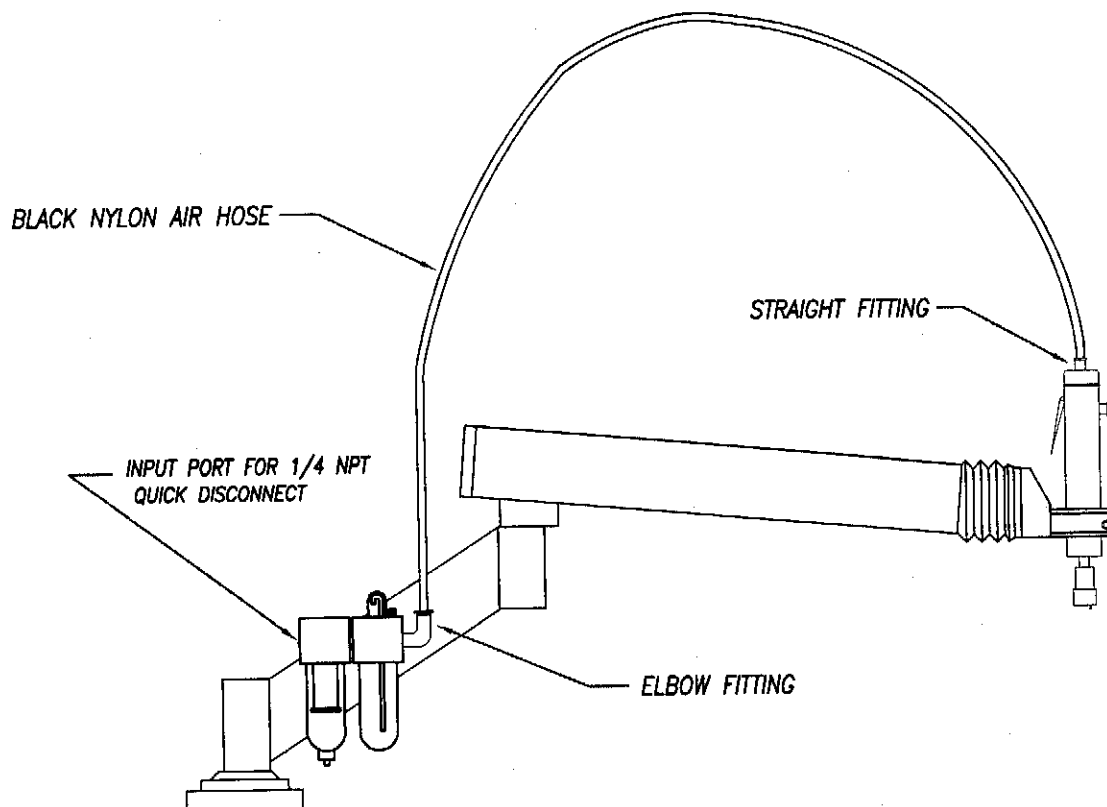

FIGURE 3
- 4) Insert one end of the black nylon hose into the press-to-release elbow fitting on the output port of the filter/lubricator. Insert the opposite end of the hose into the press-to-release straight fitting on top of the air motor. The hose must be completely pushed into the fittings to lock in under air pressure. (See Figure 3.)
- 5) Install a 1/4 NPT inlet fitting into the left port of the filter/lubricator assembly and attach a 1/2" ID, incoming airline to the fitting (see Figure 3). Do not use any quick disconnect fittings on the incoming airline. The unit must have the proper air supply (**90-120 psi and 27-28 cfm**) AT **THE MOTOR** to generate the required torque to drive the tap.